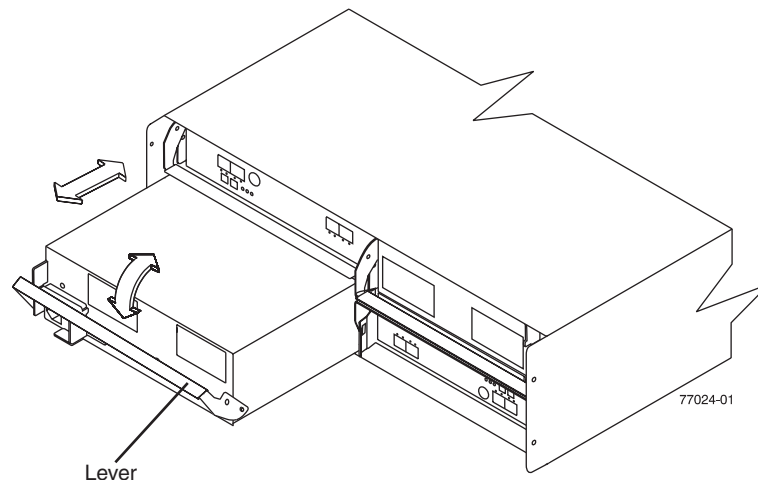

Figure 36. Replacing a power supply and fan unit
Use the following procedure to replace an ac power supply and fan unit. Figure 36 on page 81 illustrates removing and inserting a unit.
11. Slowly pull the lever away from the chassis to remove the power supply and fan unit, as shown in Figure 36.